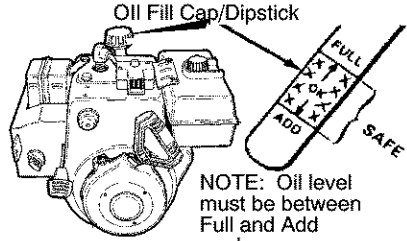

Figure 12
3. If necessary, add oil until the oil reaches the FULL mark on the oil fill cap/dipstick (see Figure 12). Do not add too much oil.